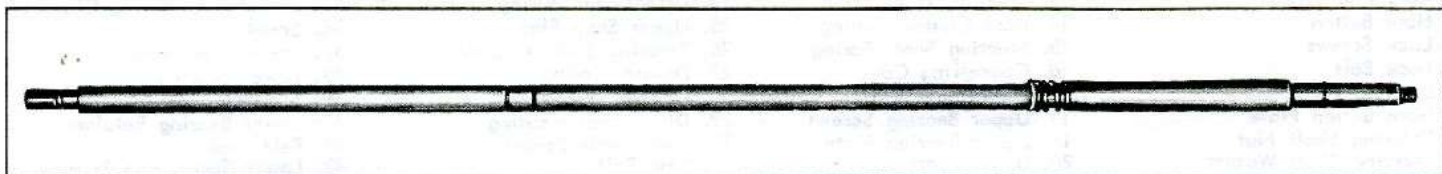

Fig. 21—Steering Shaft Assembly
2. With the spring, stop and both snap rings in place as in Figure 21. Insert steering shaft into mast jacket from the upper end.